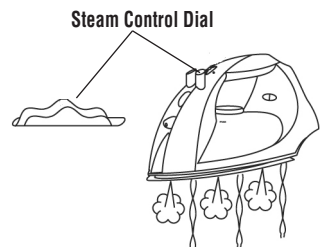

FIGURE 6
7. Turn the Steam Control Dial to the desired setting: “X” = no steam, “1” = low, “2” = high (see FIGURE 6).